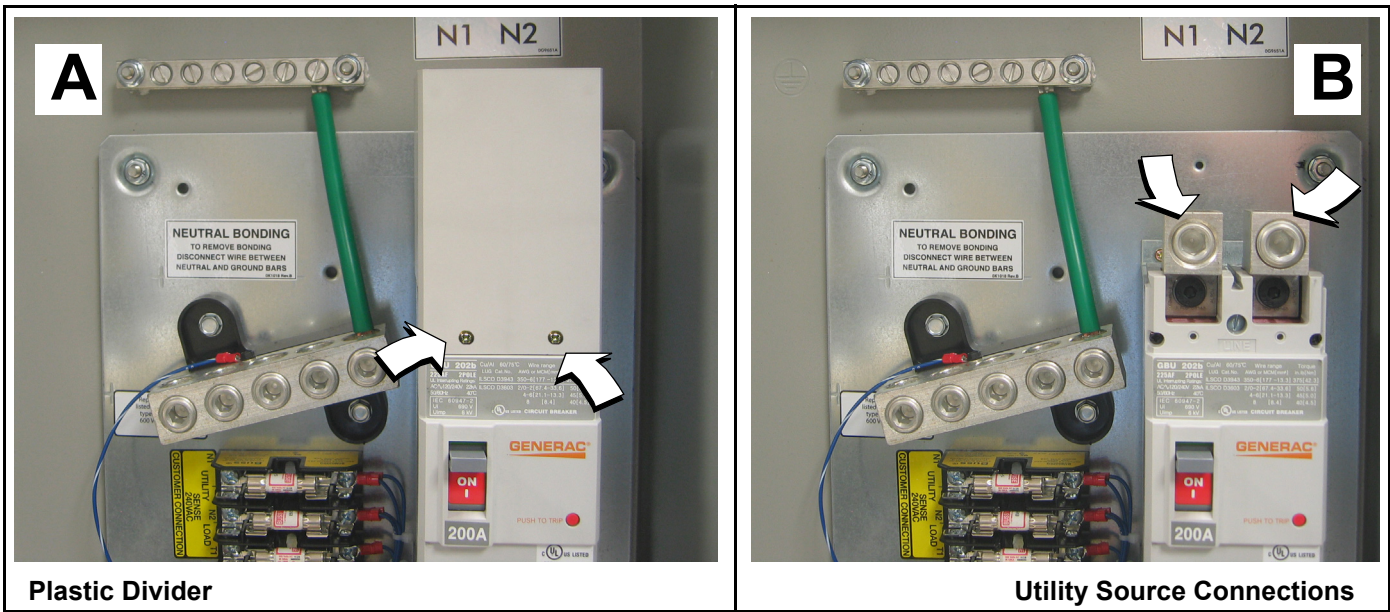

Figure 3-5. Install Utility Source Connections
1. Remove two screws to release plastic divider over utility source lugs. See A of Figure 3-5.
2. Back out terminal screws from utility source lugs (N1, N2). See B of Figure 3-5.